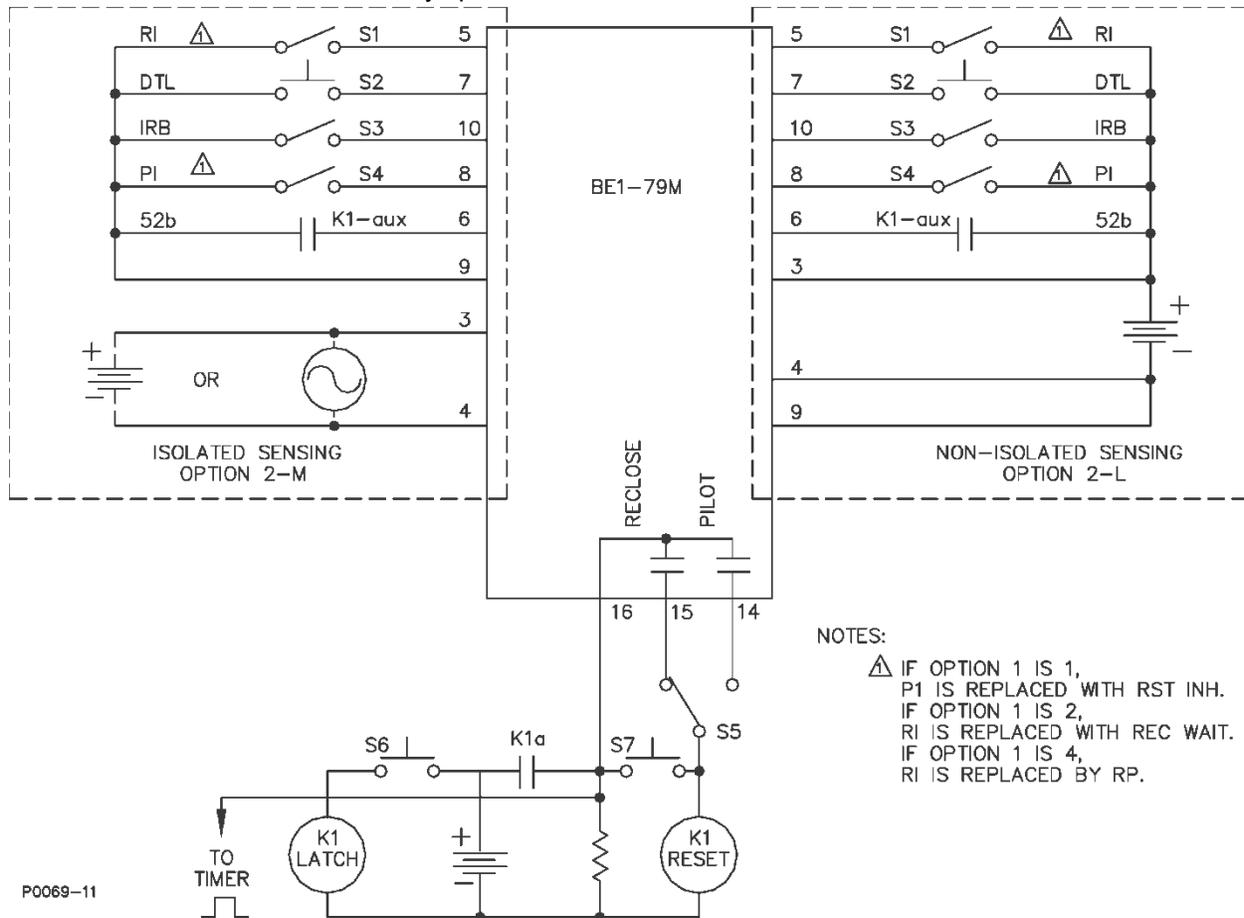

Figure 5-1. Operational Test Setup
Minimum test equipment required for relay testing and adjustment is listed below. Refer to Figure 5-1 for the test setup.
STEP 1. Connect the circuit as shown in Figure 5-1. K1 is a latching relay with a set of Form B auxiliary contacts to simulate a controlled breaker. If the Pilot Initiate option is not present, S4 and the connections to terminals 8 and 14 are not needed.